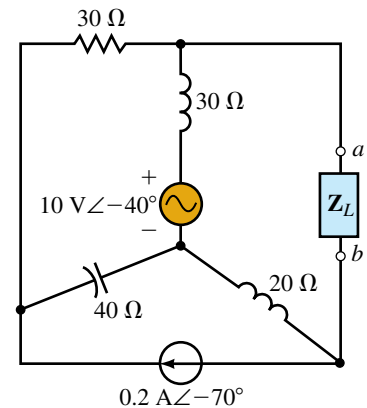

FIGURE 20–86
49. **PSpice** Use PSpice to find the Thévenin equivalent circuit external to R_L in the circuit of Figure 20–68. Assume that the circuit operates at a frequency of $\omega = 2000\text{ rad/s}$.
50. **PSpice** Repeat Problem 49 for the circuit of Figure 20–69.
51. **PSpice** Use PSpice to find the Norton equivalent circuit external to R_L in the circuit of Figure 20–70. Assume that the circuit operates at a frequency of $\omega = 5000$ rad/s.